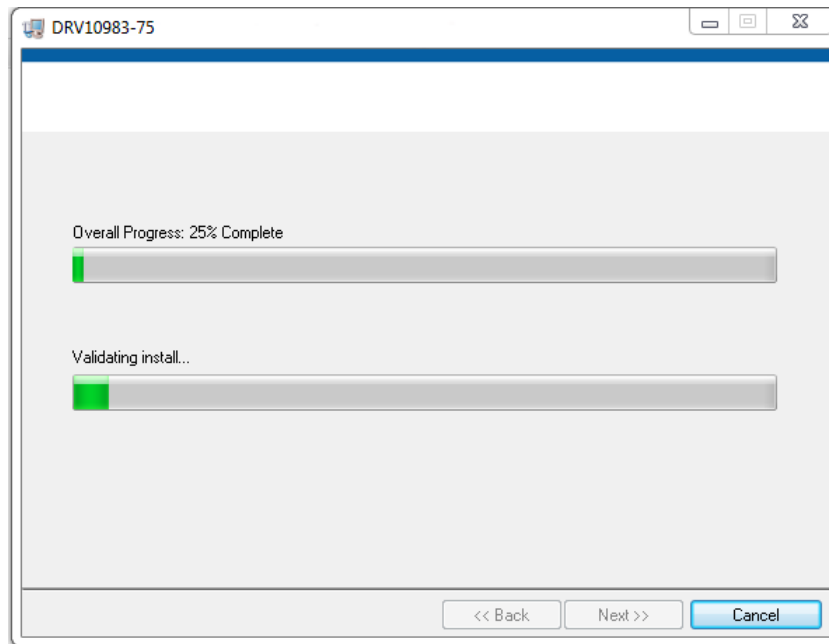

Figure 19. GUI Installation in Progress
6. The installer begins self-extraction and proceeds with the installation as shown in Figure 19.